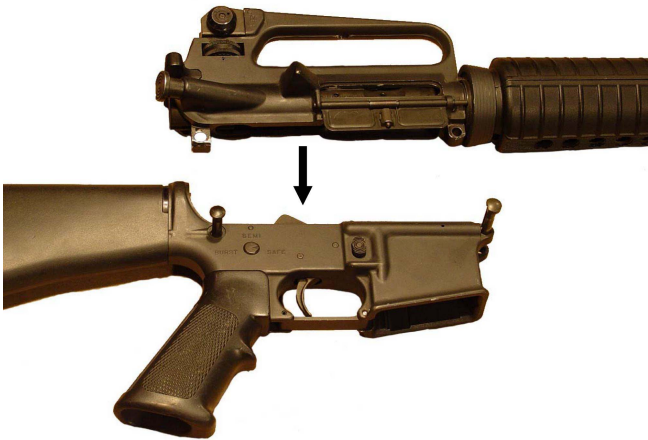

Figure 3-29. Join Upper and Lower Receivers
- d. Join upper and lower receivers. Refer to Figure 3-29.